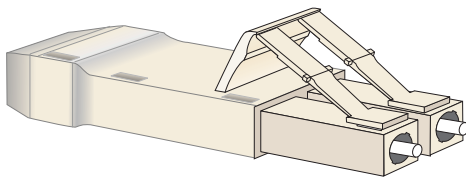

Figure 1-20: Multi-mode and Single-mode Loopback Plugs
- Fiber-optic loopback plug - An SFP multi-mode (shortwave laser) or single-mode (longwave laser) loopback plug is required to perform port loopback diagnostic tests. One loopback plug is shipped with the switch, depending on the type of port transceivers installed. Both plugs are shipped if shortwave laser and longwave laser transceivers are installed. *The plug is shown in Figure 1-20.*